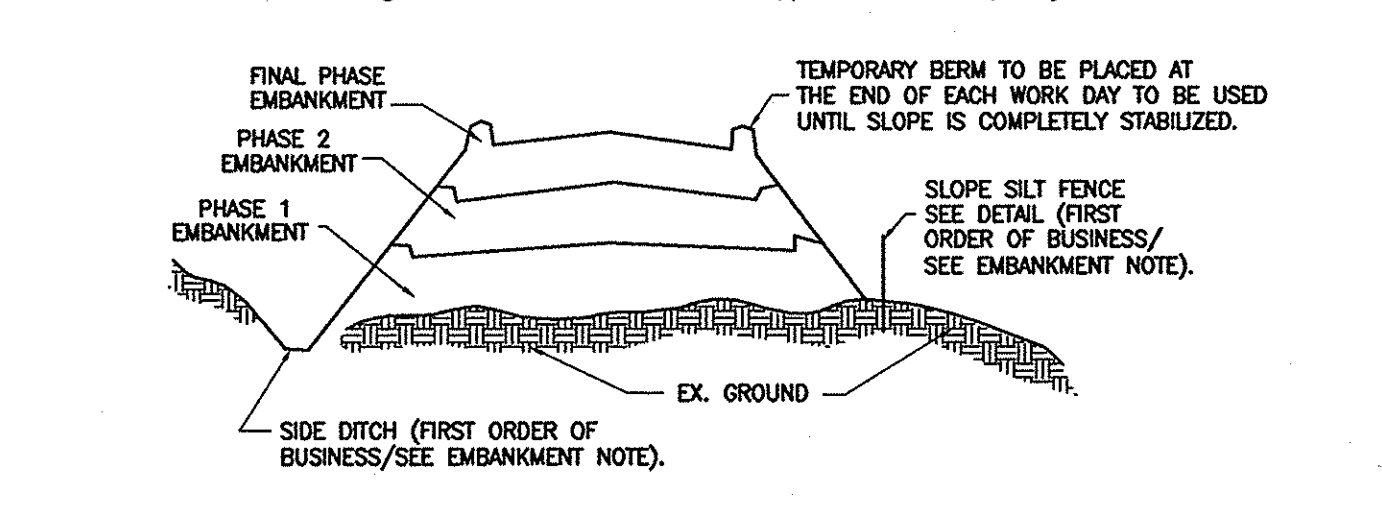

Figure 5 Incremental Stabilization - Embankment Fill Comply with MD 378 Specifications.
- Select one or more of the species or mixtures listed in Table 26 for the appropriate Plant Hardness Zone (from Figure 5) and enter them in the Temporary Seeding Summary below, along with application rates, seeding dates and seeding depths. If this Summary is not put on the plans and completed, then Table 26 must be put on the plans.
- Select one or more of the species or mixtures listed in Table 25 for the appropriate Plant Hardness Zone (from Figure 5) and enter them in the Permanent Seed Summary below, along with application rates and seeding dates. Seeding depths can be estimated using Table 26. If this Summary is not put on the construction plans and completed, then Table 25 must be put on the plans. Additional planting specifications for exceptional sites such as shorelines, streambanks, or dunes or for special purposes such as wildlife or aesthetic treatment may be found in USDA-SCS Technical Field Office Guide, Section 342 - Critical Area Planting. For special lawn maintenance areas, see Section IV Sod and V Turfgrass.